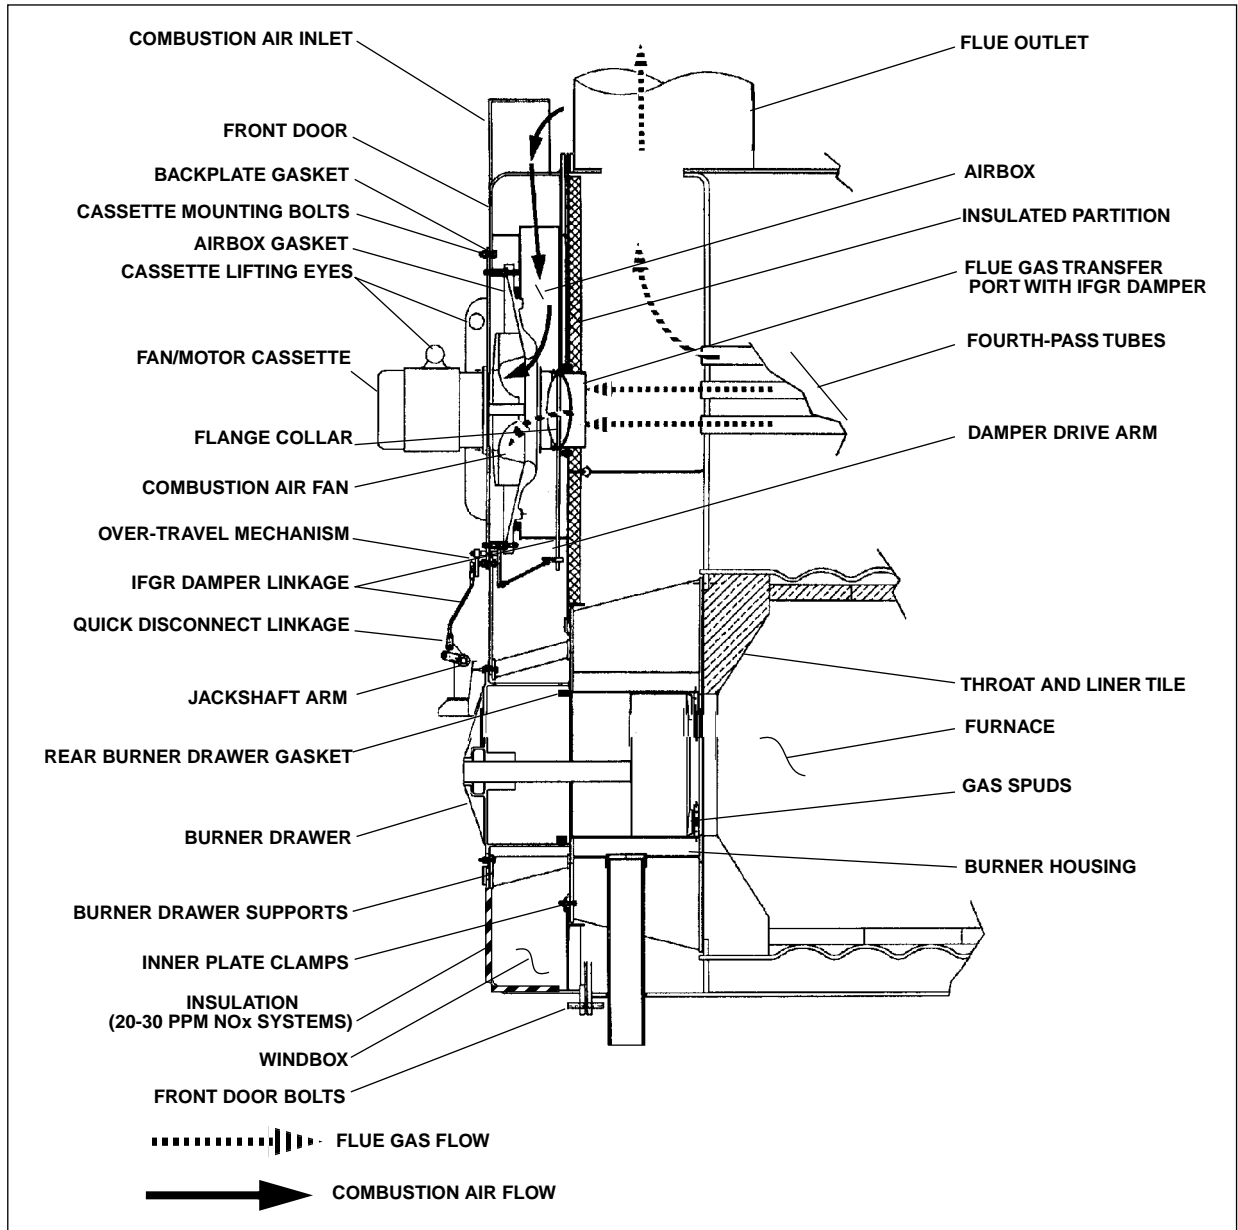

Figure 8-8: Induced Flue Gas Recirculation System, General Arrangement
Check periodically for a proper seal between the end of the burner housing and boiler refractory (See Figure 8-8). Any deterioration of the seal should be corrected, as an improper or poor seal allows air leaks, which can cause overheating or burning of the burner housing.
2. Remove the fan/motor cassette fastening nuts (see Figure 8-8).
- Slide the cassette into position until it begins to contact the backplate gasket (Figure 8-8) then measure the clearance between the cassette flange and the front door mounting face. There must be clearance of at least 1/4" to provide adequate gasket compression when the cassette is mounted tightly to the door.